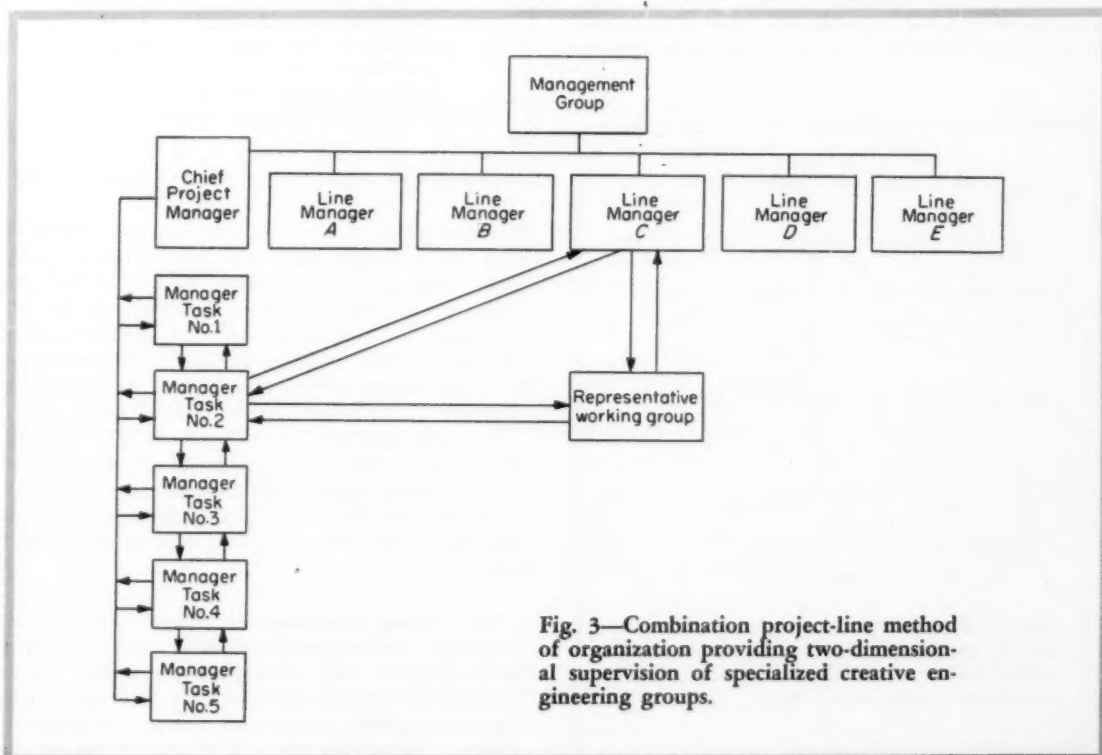

Fig. 3—Combination project-line method of organization providing two-dimensional supervision of specialized creative engineering groups.
Several companies are experimenting with the arrangement illustrated in Fig. 3. Here specialized creative engineering groups are given a two-dimensional supervision. A line supervisor heads a number of groups of related technical skill and training, and a task supervisor heads an array of diverse groups employed on a particular task. A line supervisor is responsible for (1) assembling and training a stable body of men of a certain skill, (2) organizing facilities and assigning groups as required to accomplish its appointed tasks and (3) assuring the quality of output. The task engineer is responsible for (1) fitting together all facets of a broad task, (2) arranging for accomplishment of subtasks by line groups, and (3) providing and fostering the necessary communications and direction to keep all working to the same aim and the right aim.